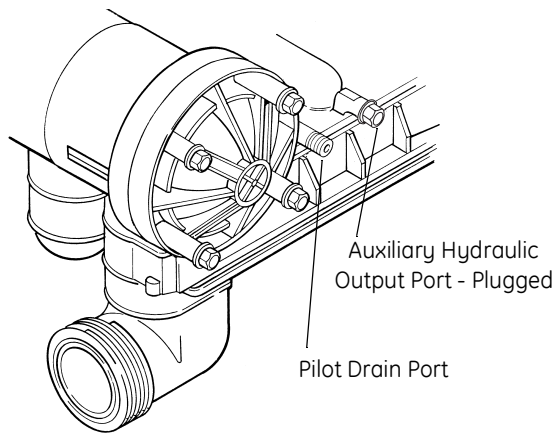

Figure 18
**Pilot Drain -** During regeneration, a small amount of water (200 ml or 1 cup) is discharged from the 1/4-inch (6.3-mm) tube fitting on the back of the valve marked DRAIN (Figure 18). To prevent this water from being discharged to the floor, plumb this connection to a non-pressurized drain or to the brine tank. **Do not plug or apply back pressure to the pilot drain at any time.**